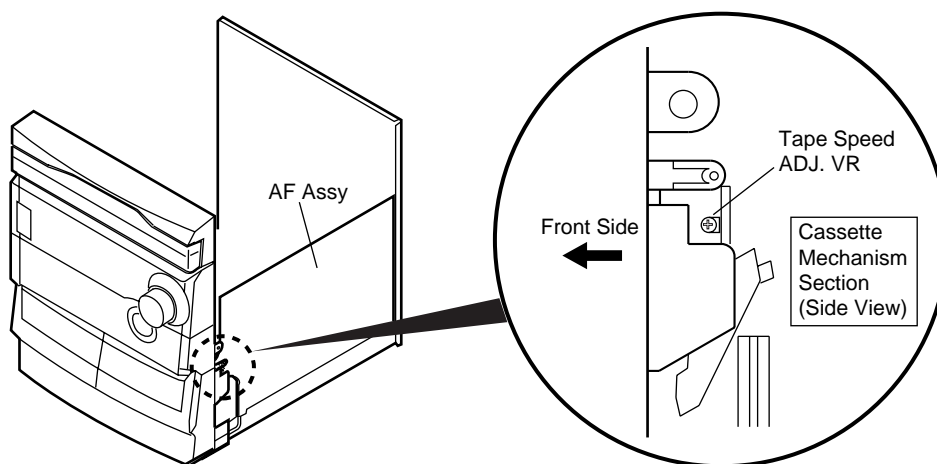
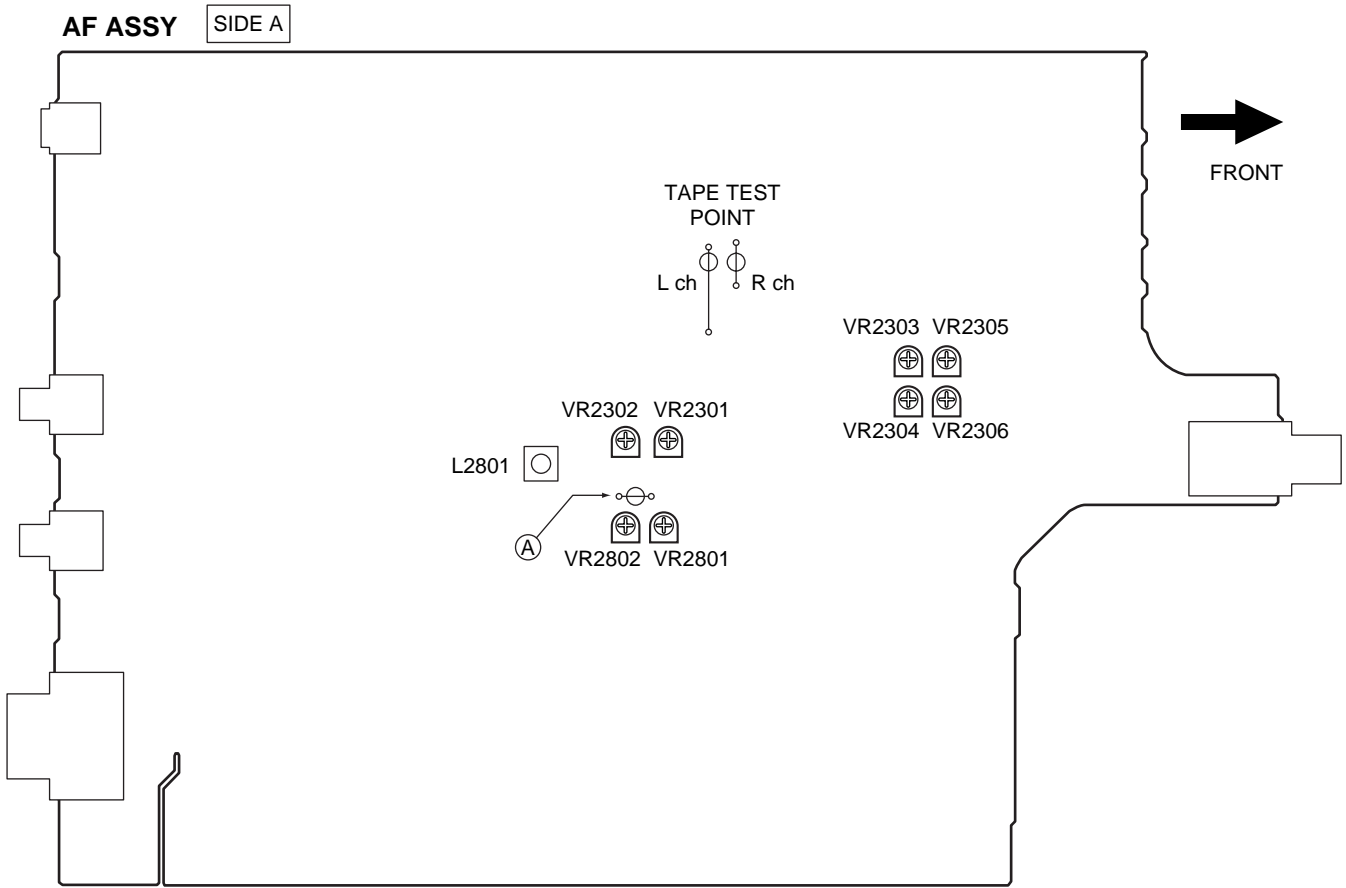

Fig.5 Tape Speed ADJ. Point
Fig.9 Adjustment and Measurement Points
• Adjustment points and test points are shown in Fig.5, Fig.7 and Fig.9.